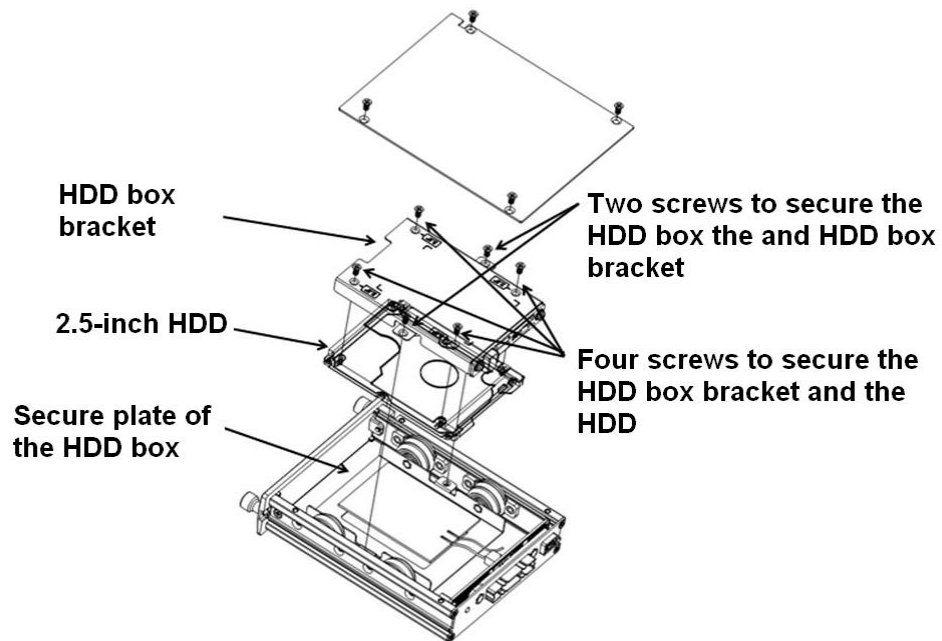

Figure 3-3
3) Now you can see an interface shown as in Figure 3-3. Use four screws to secure the HDD on the bracket and then use two screws to fasten the bracket on the bottom board.